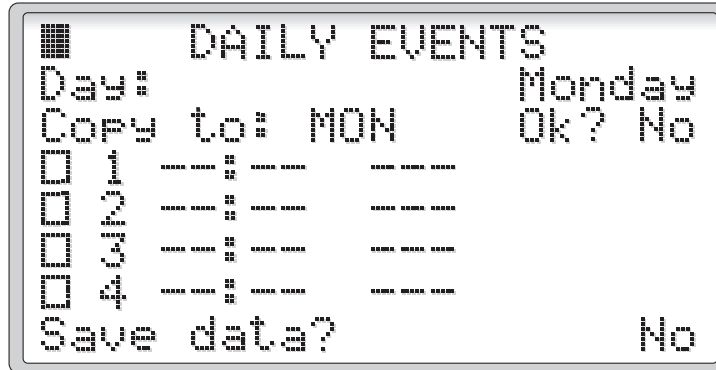

Figure 15
2.3.3.2 Daily Events (Figure 15)